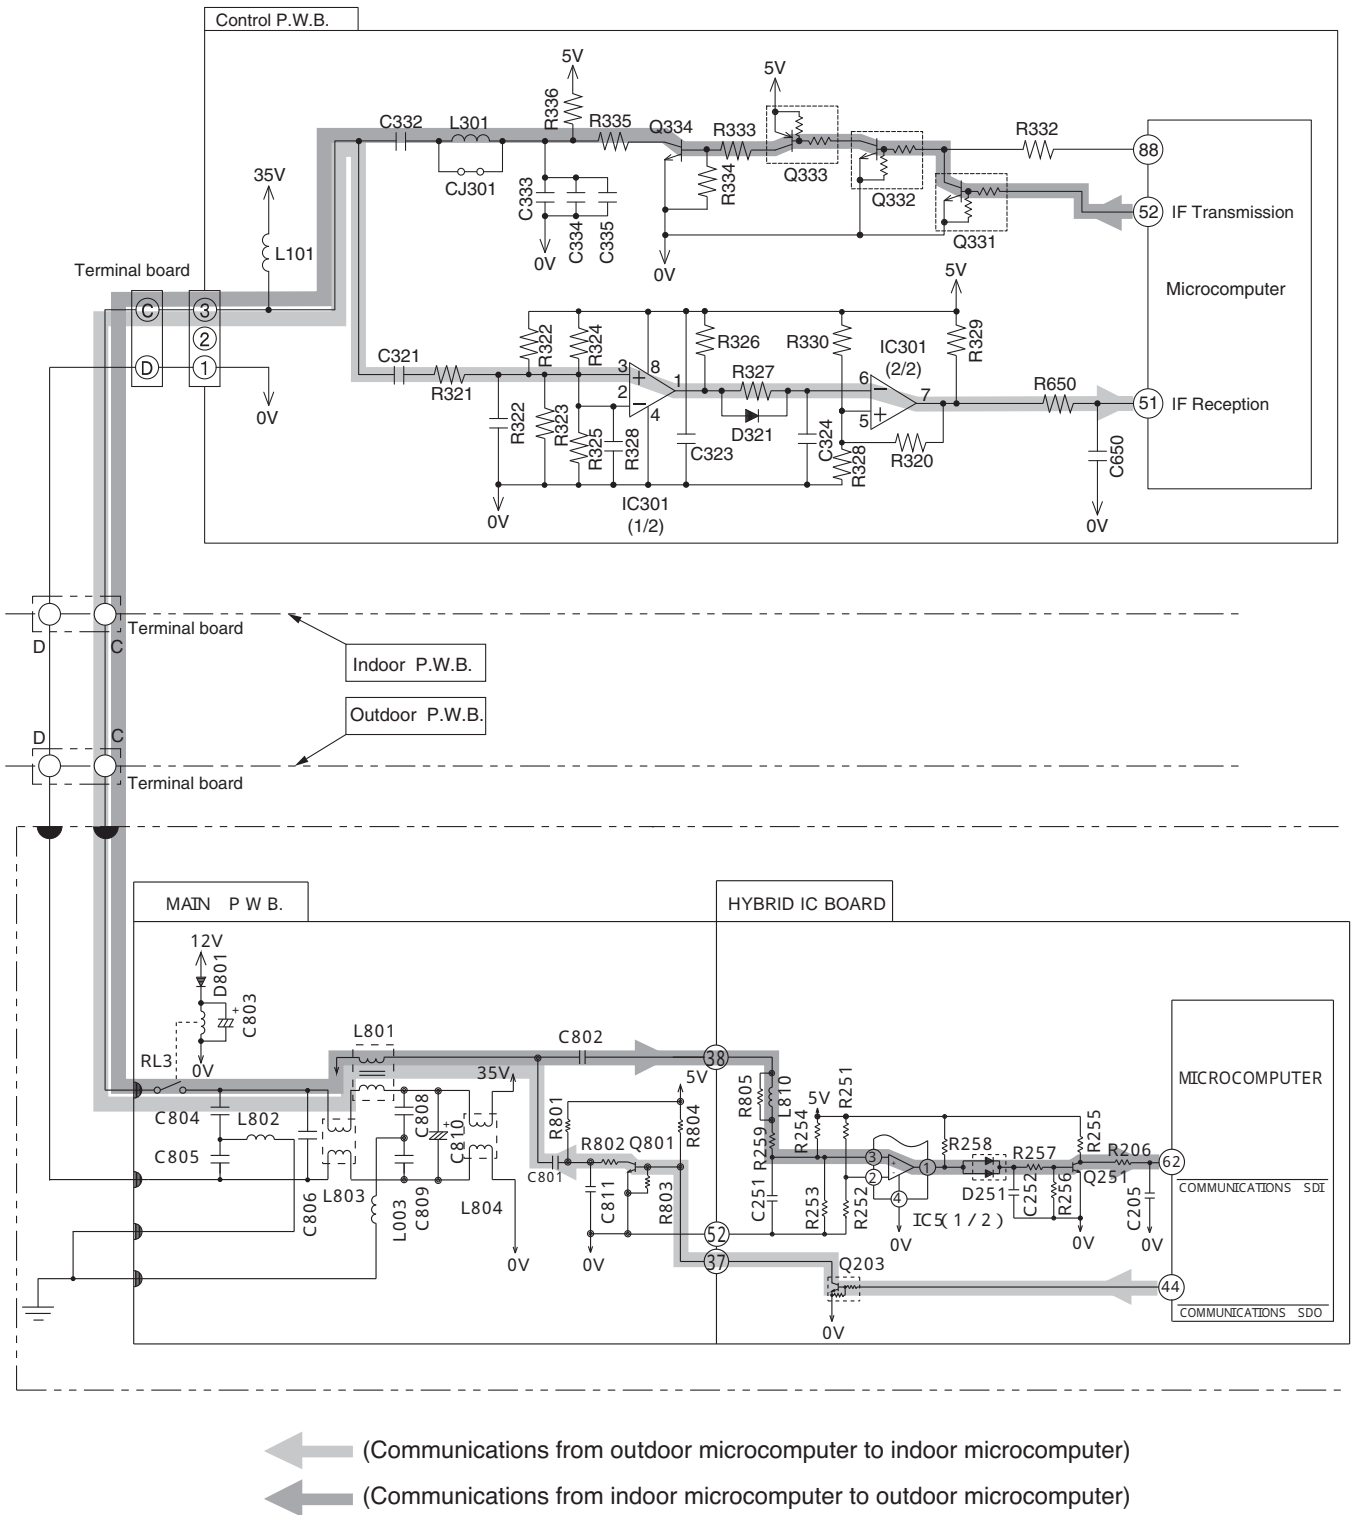

Fig. 3-1 Indoor/outdoor interface Circuit
- Fig. 3-1 shows the interface circuit used for the indoor and outdoor microcomputers to communicate with each other.